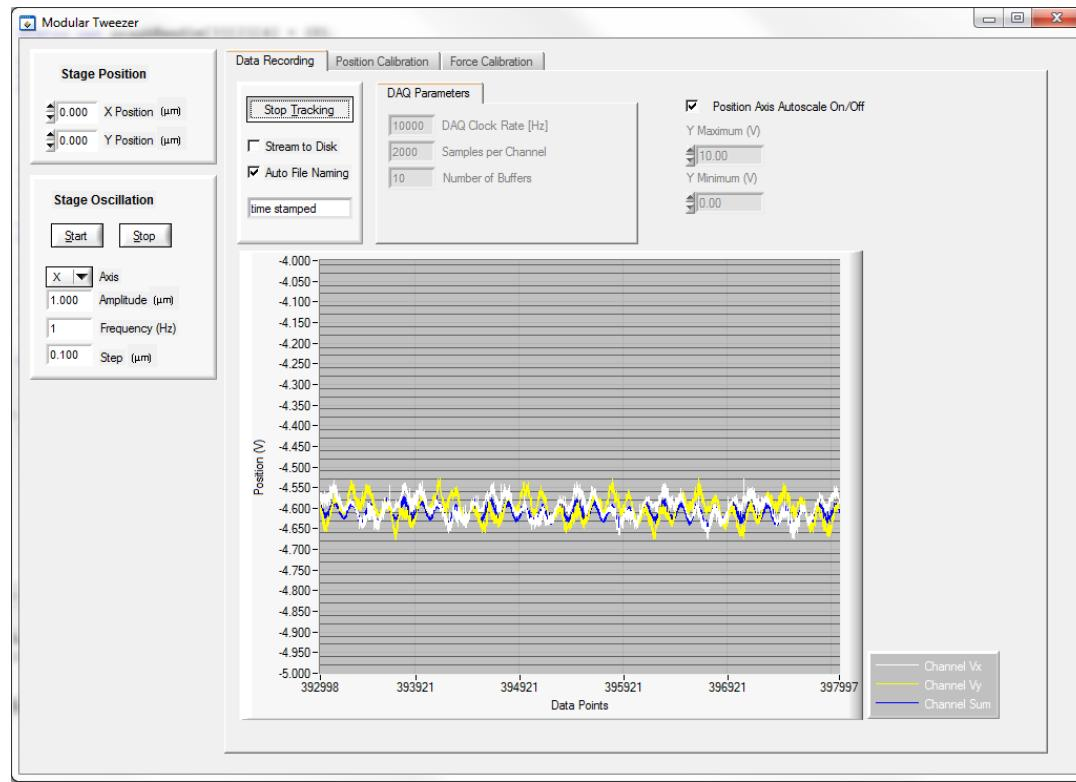

Figure 8 Example Trace of Detector Voltage Signals
3. Select the “Data Recording” Tab and click on “Start Tracking”. You will see a curve similar to the example shown in Figure 8 on Page 13.